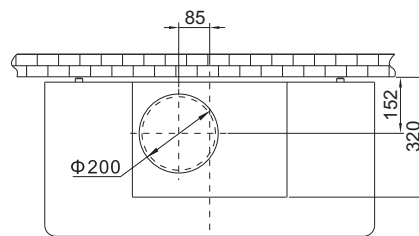

Figure 2
- As figure (1), drill three holes of $\Phi 10\text{mm}$ horizontally on the wall, hole depth 90mm, and hole spacing 109mm;
- Install the air duct cover (if needed): If the kitchen room has suspended ceiling and flexible duct through the ceiling (the opening size as Figure 2);